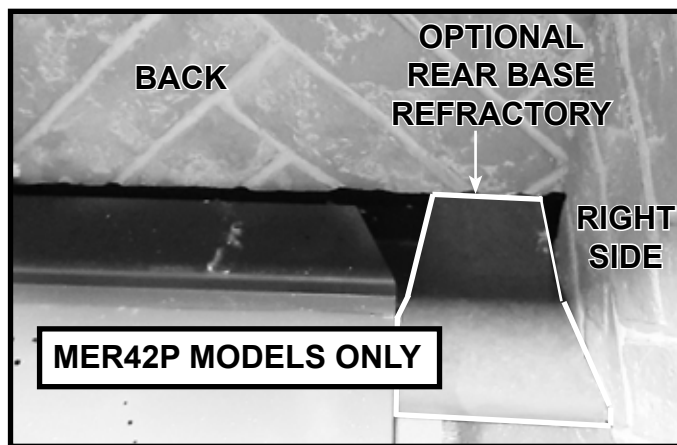

Figure 11.7 MER42P Models Only: Optional Rear Base Refractory Piece Installed (Right Side Shown)
7. **MER42P Models Only:** Place the optional rear base refractory pieces on the left and right sides in the rear of the firebox. Push back and toward the side of the firebox as shown in Figure 11.7. The base refractory piece should contact the side and back refractory panel.